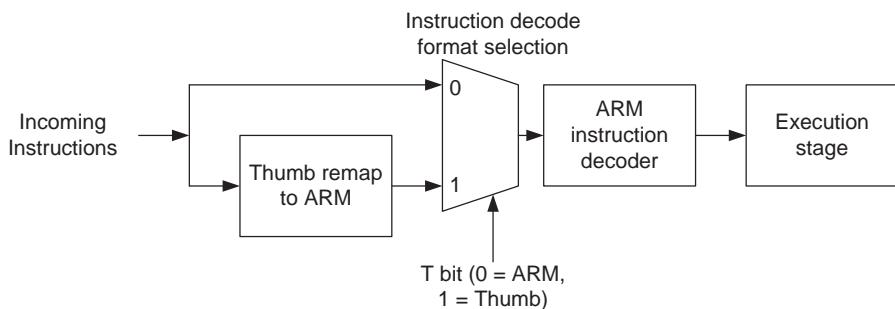

Figure 5.1
In 1995, ARM introduced the ARM7TDMI(R) processor, adding a new 16-bit instruction set called the Thumb instruction set. The ARM7TDMI supports both ARM instructions and Thumb instructions, and a state switching mechanism is used to allow the processor to decide which instruction decode scheme should be used (Figure 5.1). The Thumb instruction set provides a subset of the ARM instructions. By itself it can perform most of the normal functions, but interrupt entry sequence and boot code must still be in ARM state. Nevertheless, most processing can be carried out using Thumb instructions and interrupt handlers could also switch themselves to use Thumb state, so the ARM7TDMI processor provides excellent code density when compared to other 32-bit RISC architectures.